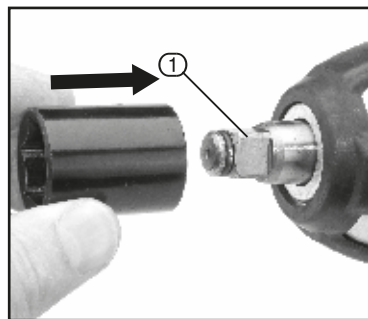

FIG.1
8.1 INSTALLING AND REMOVING SOCKETS – FIG.1